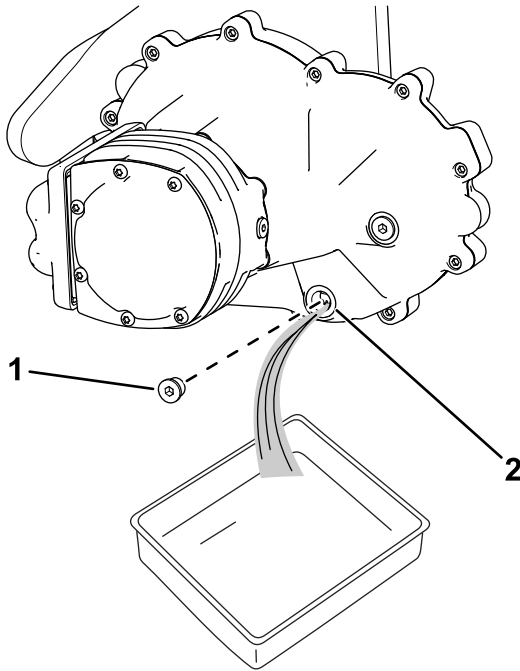

Figure 11
1. Place a drain pan under the wheel-motor assembly (Figure 11).
2. Remove the plug from the drain port (Figure 11)
5. Install the drain plug into the drain port (Figure 11).